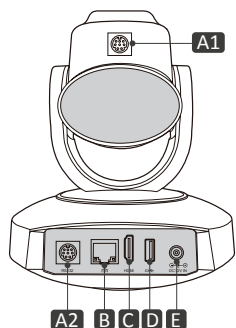

Figure 1.1
(1) Video Output from LAN
- a. Network Cable Connection Port: Connect this product and your computer through network cable, the device LAN interface refer to No B in Figure 1.1.
(2) HDMI Video Output
- a. HDMI Video Cable Connection: CI-T21H refer to No.C in Figure 1.1.
(3) SDI Video Output
(4) USB3.0 video output
- a. USB3.0 video cable connection: CI-T21H refer to No.D in Figure 1.1.
(5) USB3.0 compatible with USB2.0 output